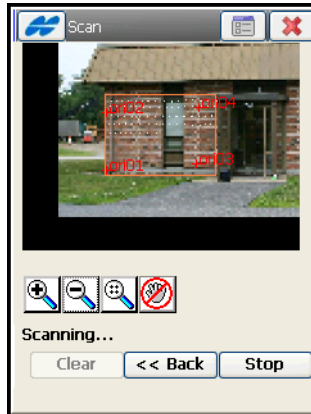

Figure 8-72. Scanning with Images
10. View the scanning in progress. As the total station measures points within the pre-defined area, each point will display on the image (Figure 8-72). If necessary, click **Stop** to stop the scan.